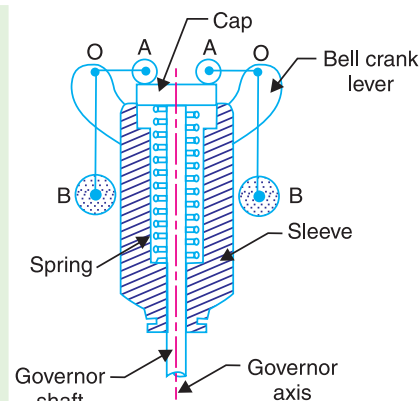

Fig. 18.24
**Example 18.19.** In a spring controlled governor of the type, as shown in Fig. 18.24, the mass of each ball is 1.5 kg and the mass of the sleeve is 8 kg. The two arms of the bell crank lever are at right angles and their lengths are  $OB = 100 \text{ mm}$  and  $OA = 40 \text{ mm}$ . The distance of the fulcrum  $O$  of each bell crank lever from the axis of rotation is 50 mm and minimum radius of rotation of the governor balls is also 50 mm. The corresponding equilibrium speed is 240 r.p.m. and the sleeve is required to lift 10 mm for an increase in speed of 5 per cent. Find the stiffness and initial compression of the spring.
The spring controlled governor of the type, as shown in Fig. 18.24, has the pivots for the bell crank lever on the moving sleeve. The spring is compressed between the sleeve and the cap which is fixed to the end of the governor shaft. The simplest way of analysing this type of governor is by taking moments about the instantaneous centre of all the forces which act on one of the bell crank levers.